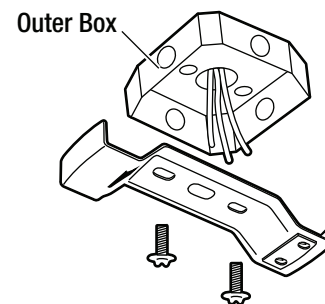

Figure 4
**NOTE:** You may need a longer downrod to maintain proper blade clearance when installing on a steep, sloped ceiling. The maximum angle allowable is 18° away from horizontal. If the canopy touches the downrod, then remove the decorative canopy bottom cover (C) and turn the canopy (B) 180° before attaching the canopy (B) to the mounting bracket (A).
- Secure the supporting bar to the ceiling outlet box as shown in Figure 4 by using two screws and washers (not provided). Make sure the supporting bar is level. You may need to insert additional washers (not provided) between the outlet box and the supporting bar to make it level.